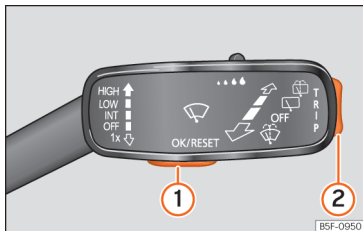

Fig. 132 Windscreen wipers lever: control buttons.
As long as a priority 1 » page 112 warning is active, it will not be possible to access any menu. Some warnings can be confirmed and hidden with the button » Fig. 132 ①.